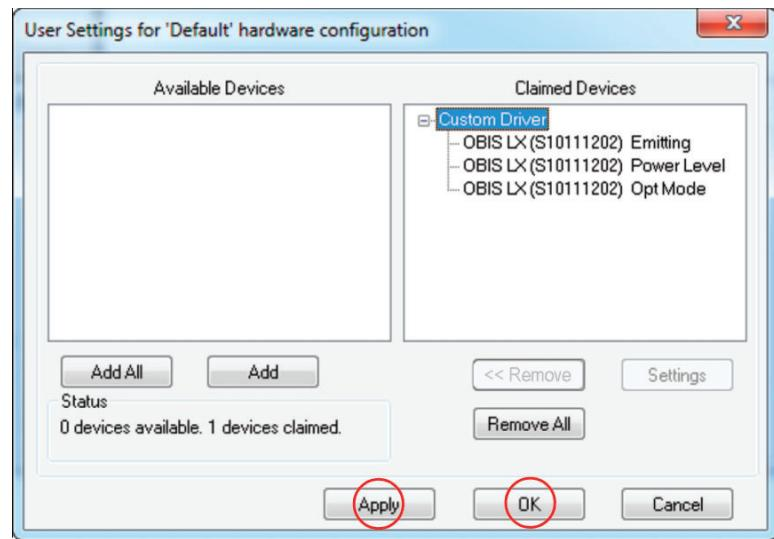

Figure H-17. Save Settings
13. Click Apply, then OK to save these settings, as shown in Figure H-17.